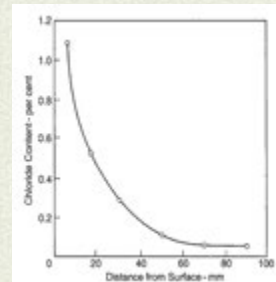

Figure 6 A typical chloride content profile in concrete (Neville, 1995)
- Chloride content profile: commonly obtained from saltwater immersion or spraying tests. (Fig. 6)